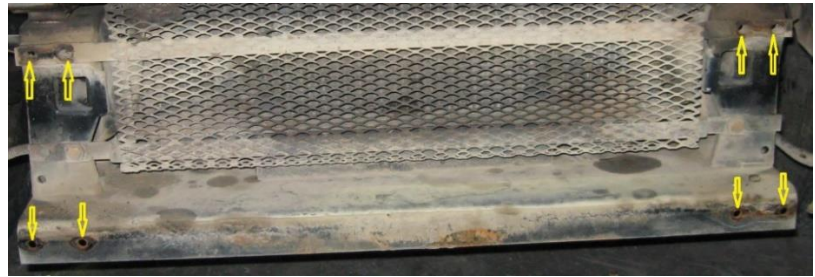

Figure 7 (a) – 8 Bolt mounting pattern on the Frame (Front View)
**For 8-bolt mounting pattern truck:** Use the 8 mounting points as shown in Figure 7 (a) to attach the HERD steel bracket using extra retained hardware as shown in Figure 7 (b) and proceed to step 7.